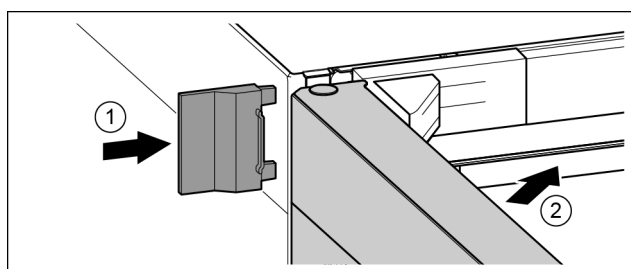

Fig. 25
- Slide on the external cover. Fig. 25 (1)
- Close the upper door. Fig. 25 (2)